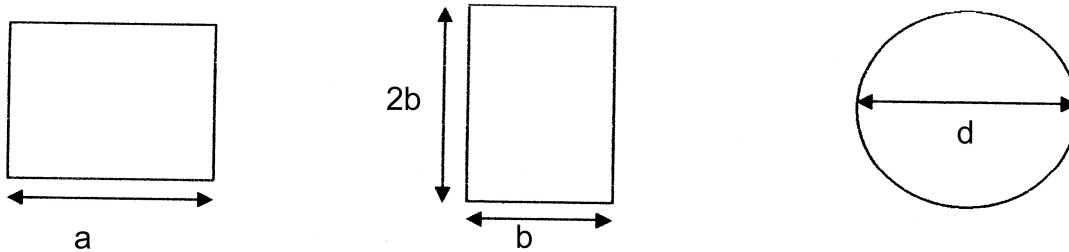

Fig.1
- 5) Three beams have same lengths, allowable stresses and bending moments. Cross sections of the beams are shown in Fig.1. Find the ratios of weights of circular and rectangular cross section beams with respect to the square cross section beam.